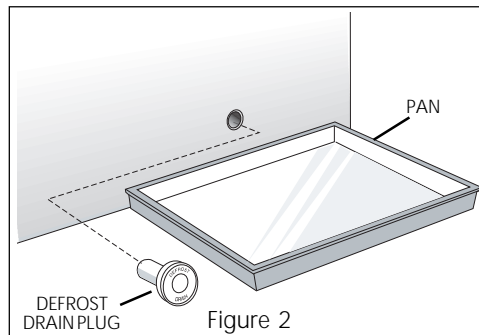
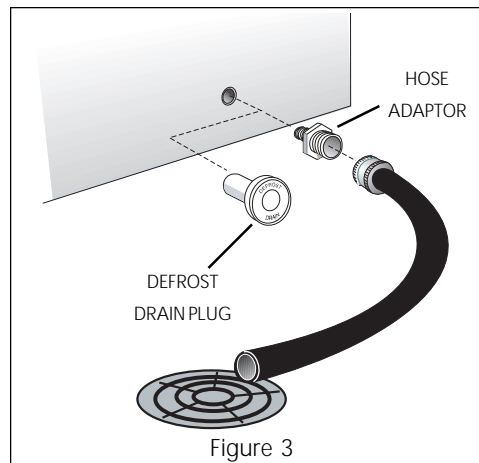
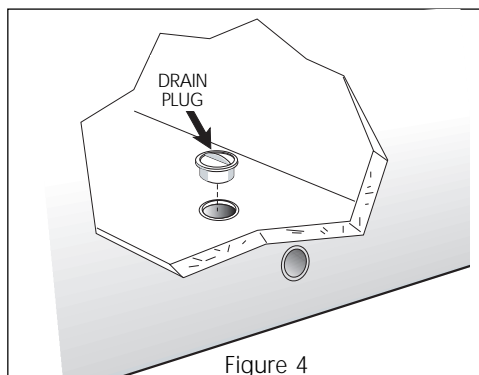

Figure 2
Figure 3
Figure 4
- **On chest models** with a defrost drain, place a shallow pan or the Divider/Drain Pan (some models) beneath the drain outlet (Figure 2). A one half inch garden hose adaptor can be used to drain the freezer directly into a floor drain (Figure 3). If your model is not equipped with an adapter, one can be purchased at most hardware stores. Pull out the drain plug inside the freezer, and pull off the outside defrost drain plug (Figure 4). Defrost water will drain out. Check pan occasionally so water does not overflow. Replace the drain plugs when defrosting is completed.